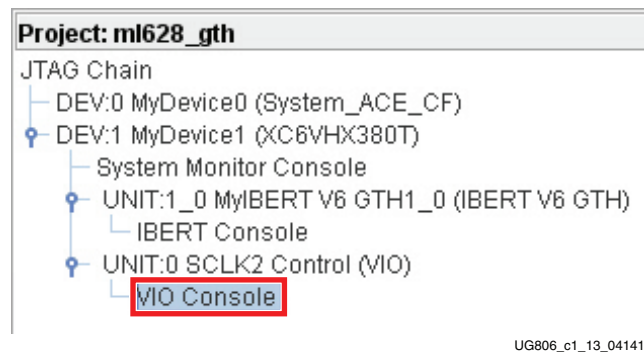

Figure 1-13: Project Panel - VIO Console (GTH)
1. In the Project Panel, double-click **VIO Console** (Figure 1-13).